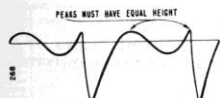

Figure 1. Horizontal Oscillator Waveform.
- Connect oscilloscope high side through a 10 mmfd. condenser to terminal "C" or "2" on the horizontal blocking transformer; low side to chassis ground. Set oscilloscope to horizontal frequency (15.75 KC) or a sub-multiple of it. While keeping the picture in sync, adjust the HORIZ. LOCK adjustment L401 (under side of chassis) for oscilloscope waveform pattern as illustrated in figure 1. Adjust for equal height of the rounded and pointed peaks. This adjustment must be accurately made for correct operation of the horizontal oscillator. Disconnect the oscilloscope after adjusting waveform.